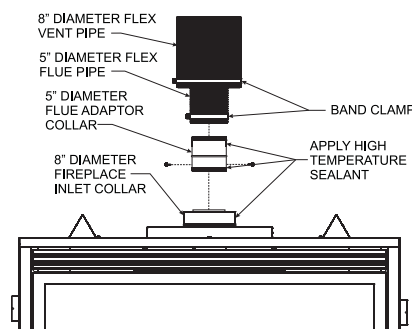

Figure 66
9. Apply sealant to the outside of the flue pipe adapter and connect to the flex flue pipe. Then insert the adapter into the fireplace flue. Secure flue adapter to the fireplace flue with a minimum of two screws provided. **See Figure 66.**